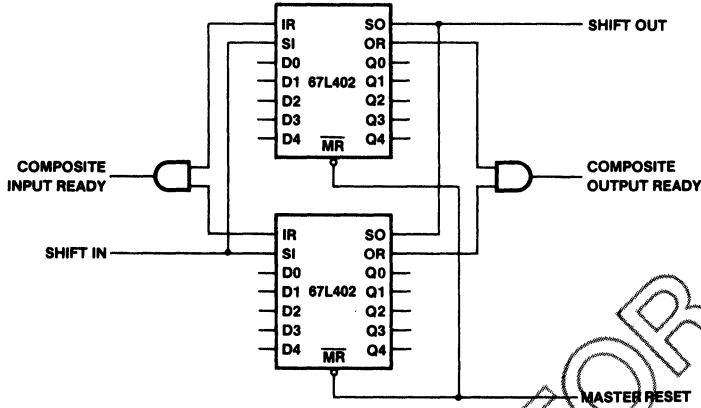

Figure 11. 64x8 FIFO With 67L402's
After power up the Master Reset is pulsed low (Fig. 11) to prepare the FIFO to accept data in the first location. When Input Ready (IR) is HIGH the location is ready to accept data from the D_x inputs. Data then present at the data inputs is entered into the first location when the Shift In (SI) is brought HIGH. A SI HIGH signal causes the IR to go LOW. Data remains at the first location until SI is brought LOW. When SI is brought LOW and the FIFO is not full, IR will go HIGH, indicating that more room is available. Simultaneously, data will propagate to the second location and continue shifting until it reaches the output stage or a full location. The first word is present at the outputs before a shift out is applied. If the memory is full, IR will remain LOW.